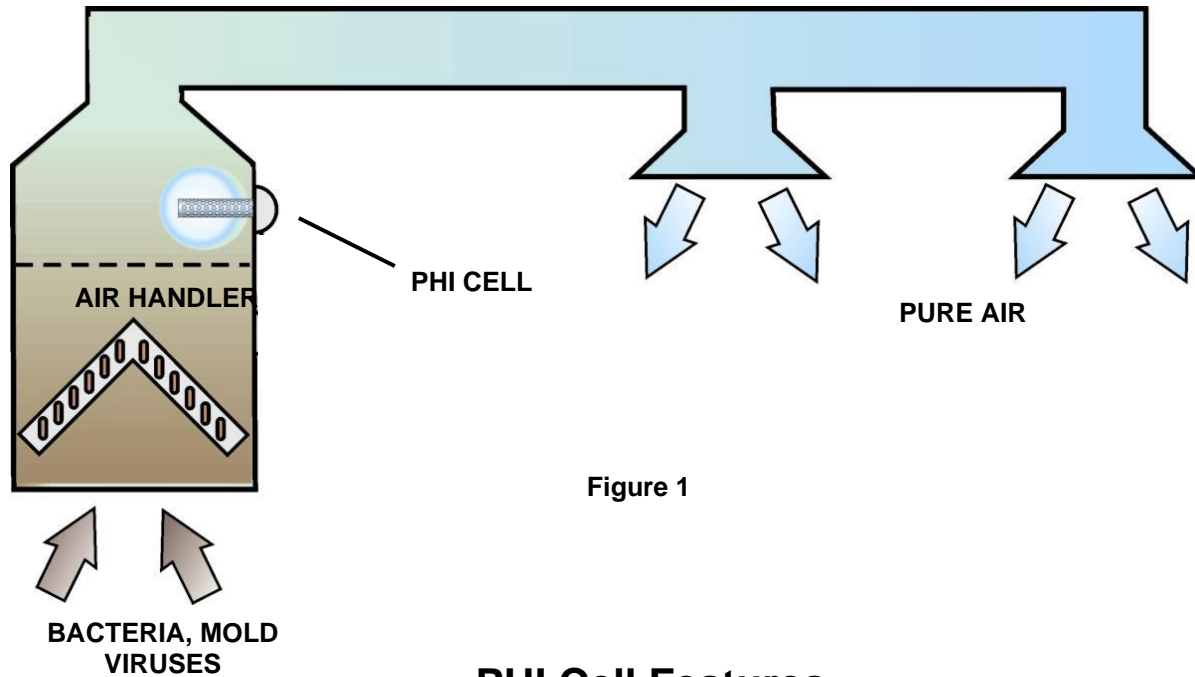

Figure 1
- To maximize the effectiveness of the PHI cell it is recommended (whenever possible) to install the *Air Knight* unit in the air plenum just after the air handling unit (supply side), refer to Figure 1 for clarification.